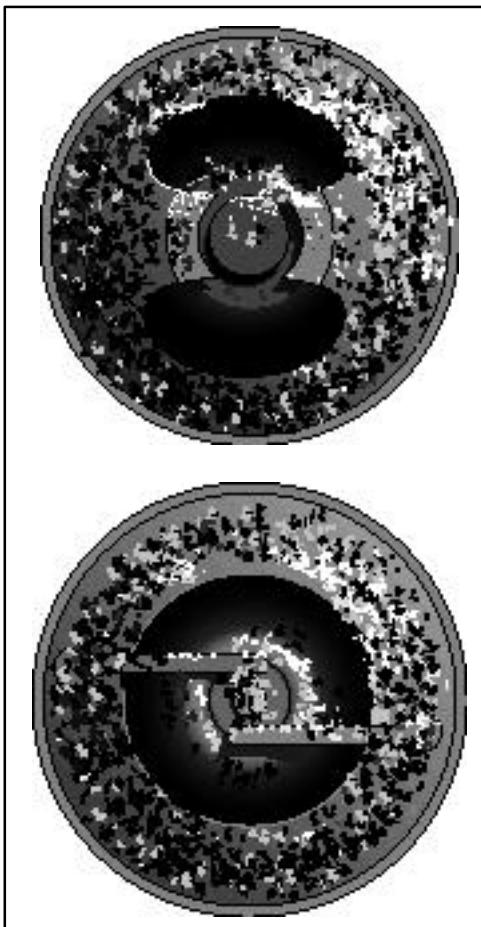

FIGURE 8-6b. Typical oil-fouled spark plug.
(3) Oil fouling is identified by a wet, black carbon deposit over the entire firing end of the plug as shown in figure 8-6b. This condition is fairly common on the lower plugs in horizontally-opposed engines, and both plugs in the lower cylinders of radial engines. Oil fouling is normally caused by oil drainage past the piston rings after shutdown. However, when both spark plugs removed from the same cylinder are badly fouled with oil and carbon, some form of engine damage should be suspected, and the cylinder more closely inspected. Mild forms of oil fouling can usually be cleared up by slowly increasing power, while running the engine until the deposits are burned off and the misfiring stops.